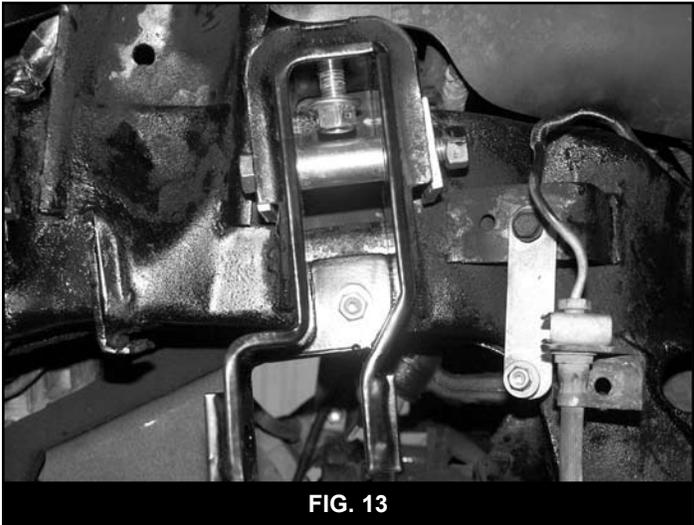

FIG. 13
29. Install a 1/2" x 1-1/4" bolt (Bolt pack #511) in a 01149 backing plate. Place bolt and plate in the frame so that the bolt threads are protruding out of the hole in the OE upper control arm pocket. Install the 01145 passenger's side front upper a-arm bracket in the OE pocket by lining up the hole in the back of the bracket with the bolt in the frame. Secure it with a 1/2" nut and 1/2" SAE washer from bolt pack #511. Leave hardware loose. (Fig. 13)